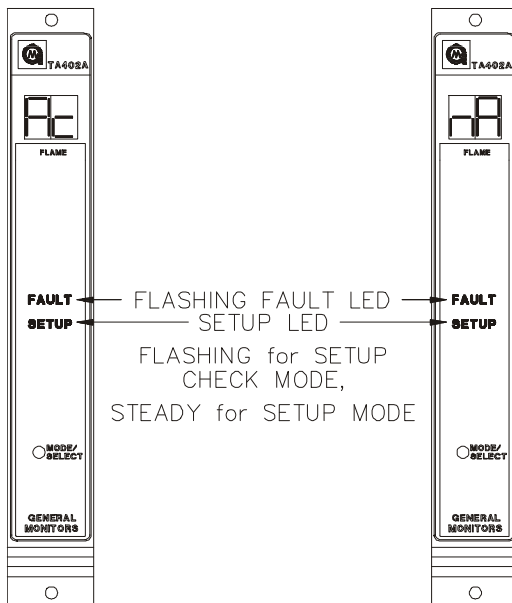

Figure 21
- After the A1 alarm options have been selected, the user will select the Fault/Inhibit option. The **FAULT** LED on the front panel will be flashing while the display indicates **Ac** or **nA** (figure 21). An **Ac** selection specifies that the Model TA402A will activate the Fault circuit while the unit is in the Inhibit Mode. An **nA** selection specifies that the Model TA402A will not activate its Fault circuit when the unit is placed in the Inhibit Mode (see section 5.3). An **nA** selection will not disable the Fault circuit, therefore, if a Fault occurs during the Inhibit Mode, the unit will activate the Fault circuit. Press the Mode/Select switch until the desired option is displayed. Not Active is the factory default for this selection.